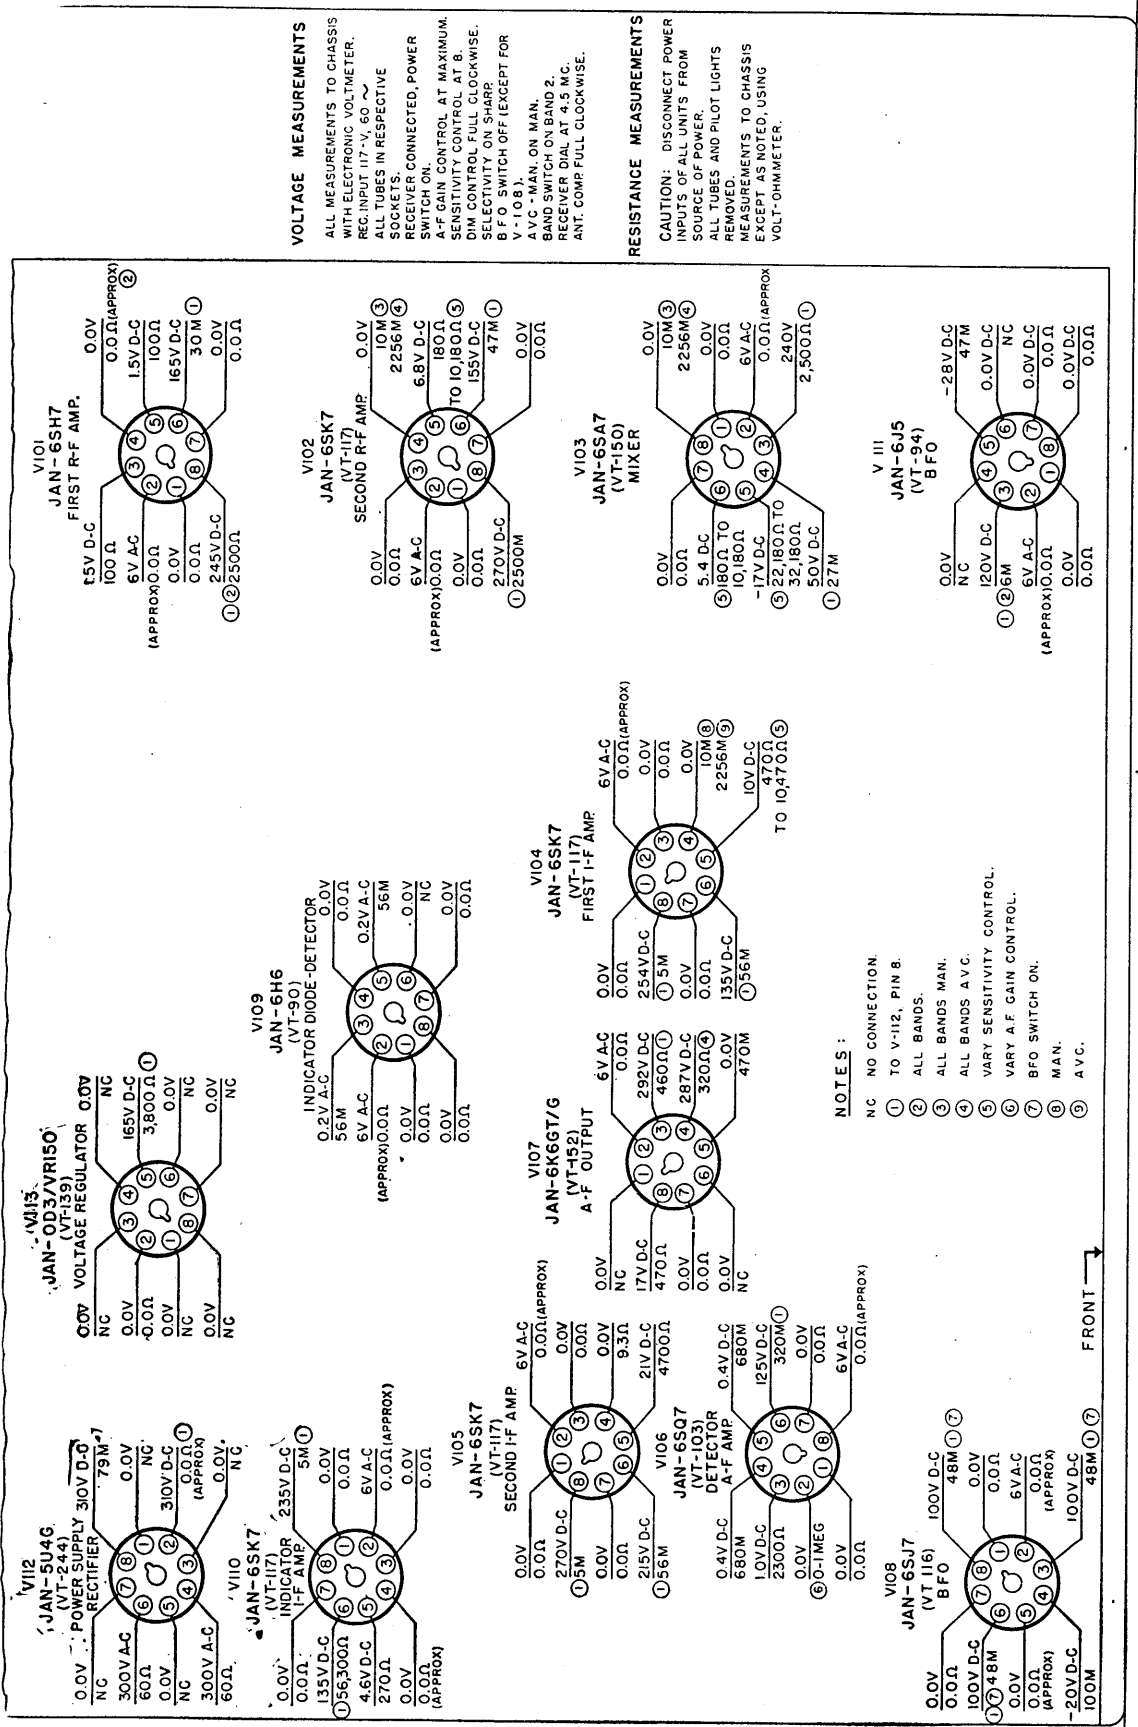

Figure 10. Radio Receiver BC-1147-(*), chassis lay-out diagram showing socket voltage and resistance values.
f. If the correct reading is obtained with the correct input, it is not necessary to check any further, as this is a clear indication that the equipment is in good working order. If it is impossible to obtain the correct reading with the correct input, then proceed to substitute the signal in the successive stages as outlined below. The stage immediately preceding the first stage from which the proper response is obtained (indicated by specified change in output voltage) is the stage in which the trouble occurs. The defect should be further localized by checking the individual resistors, capacitors, and tube socket values as shown in section VIII, and figures 10 and 26.
Figure 10 shows the voltage readings from socket pins to chassis (except where otherwise indicated) as measured by a VTVM. Variations of more than 10 percent generally indicate either a defective circuit or tube. Measurement of the socket voltages is a convenient method of checking the operation of the equipment. When the voltage reading deviates from the value given in figure 10 by more than the permissible variation, proceed with a resistance check of the socket. (See par. 20.) If the resistance deviates by more than the permissible variation, check the individual resistors and capacitors by referring to the appropriate stage diagram. (See sec. VIII.)
Figure 10 shows the resistance readings taken at the tube socket pins. Variations of more than 10 percent call for a complete point-to-point circuit check of the associated stage in accordance with the applicable stage diagram in section VIII. Disconnect the receiver from the power source and remove all tubes and pilot lights before making these measurements.